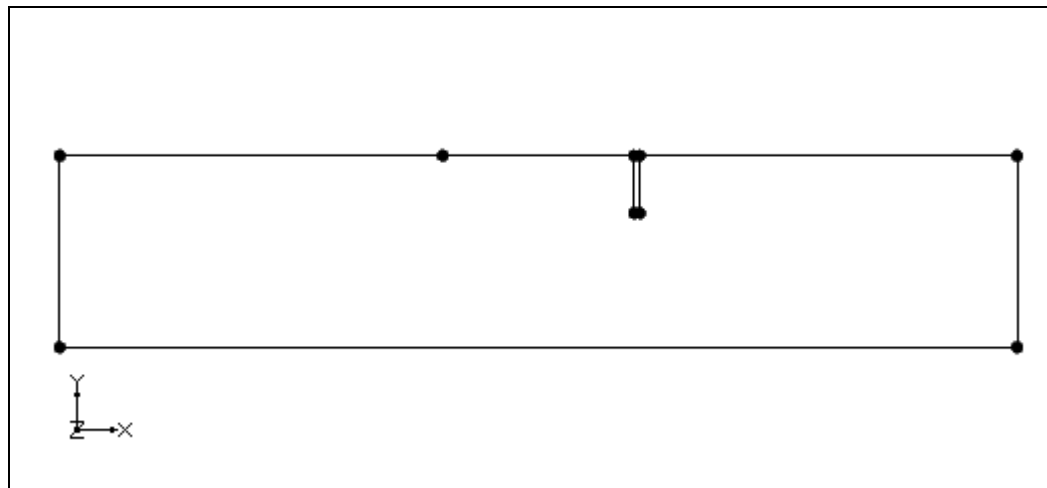

Figure 8. Arcs connecting points.
11. Your model should now look like Figure 8.